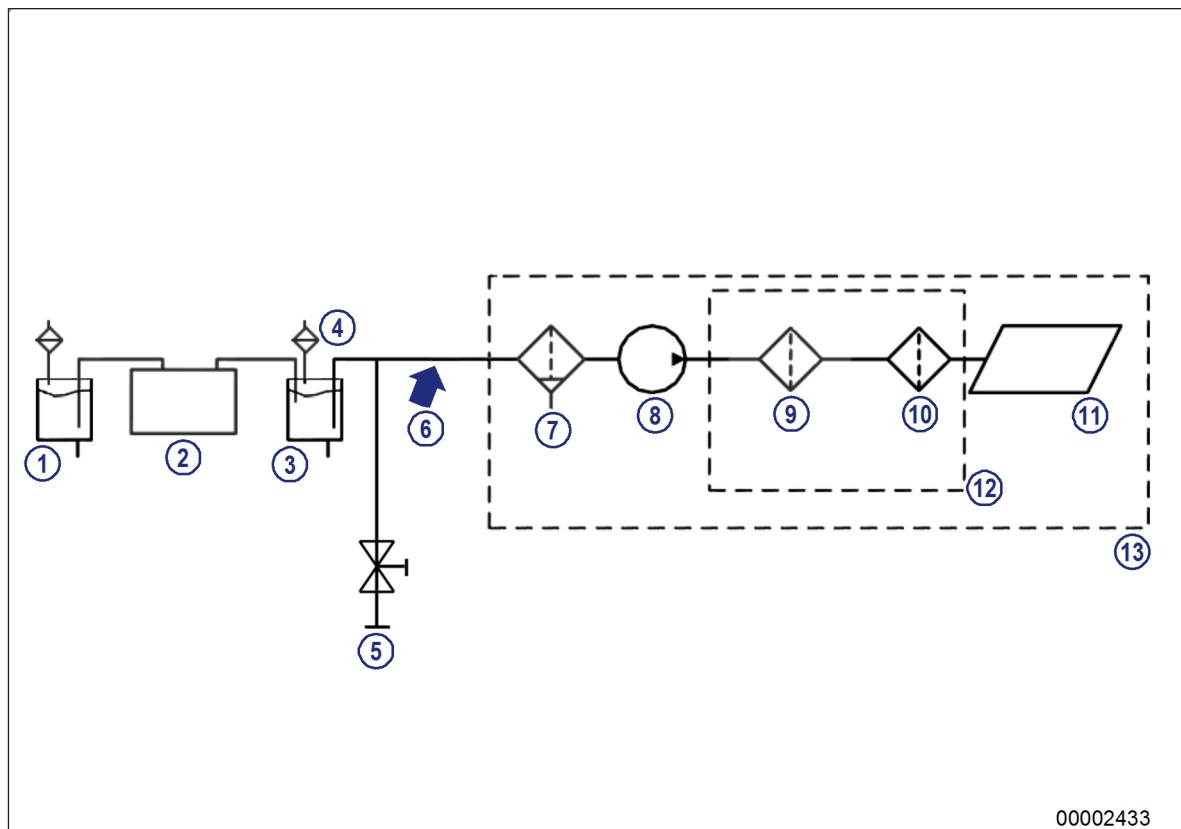

Figure 3: Fuel system
The limit values named in the table (→ Table 10) must be observed at the interface [(→ Figure 3), item 6] at the latest to guarantee safe and efficient engine operation. This applies in particular to water and total contamination.